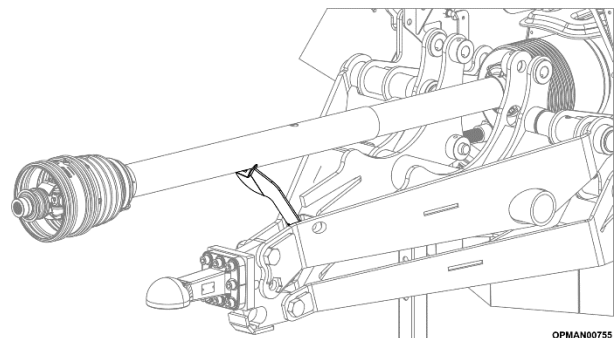

Figure 4.15 – PTO Support Bracket
4.5.1.7 If the shaft is not destined to be removed completely, utilise the machines PTO support bracket to rest the PTO shaft on; see Figure 4.15. This will ensure that the shaft doesn't get contaminated with dirt.